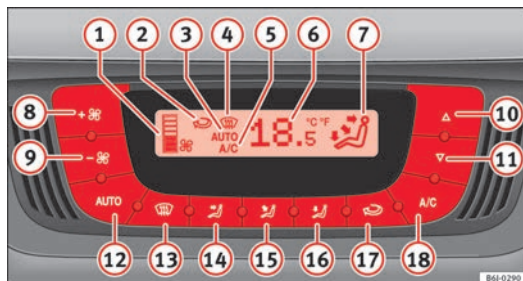

Fig. 95 Climatronic controls on the dash panel
- Press keys **10** and **11** ⇒ Fig. 95 to adjust temperature.
- ① Blower level indicator.
- ② Air recirculation display:
- ③ Display **AUTO** (Automatic operation)
- ④ Demisting indicator
- ⑤ AC indicator (Cooling connected)
- ⑥ Interior temperature indicator selected
- ⑦ Air flow direction indicator
- ⑧ Fan speed increase
- ⑨ Fan speed decrease
- Press the button **AUTO**. The indication \Rightarrow Fig. 95 **3** is displayed.
- Press keys **10** and **11** \Rightarrow Fig. 95 to adjust the desired temperature inside the vehicle. We recommend you adjust the temperature to 22°C (72°F).
- Press one of the buttons \Rightarrow Fig. 95 **14** to **16** or press the blower control **8** and **9** down. The indicator is switched off **3**.
The blower can be adjusted with buttons **8** and **9** \Rightarrow Fig. 95. If the blower is off (level **1** is not shown on the screen) and button **9** is pressed after 1 second, the Climatronic switches off.
- Press the button  to switch air recirculation mode on or off. This is ON if the symbol  → Fig. 95 is displayed on the screen.